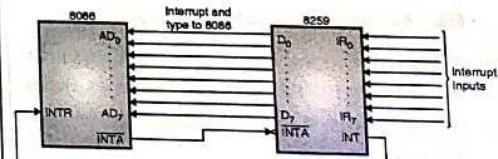

Fig. 7.6.1 : Interfacing 8259 to 8086
- Thus we do need external hardware. The most widely used device is 8259 (PIC). Refer Fig. 7.6.1 for interfacing.